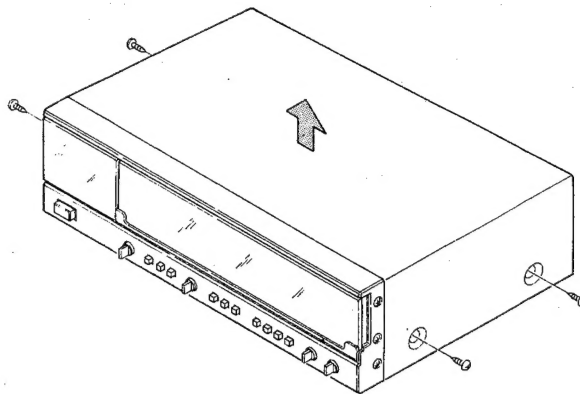

Fig. 6
2. How to Remove the Top Cover (Fig. 6)